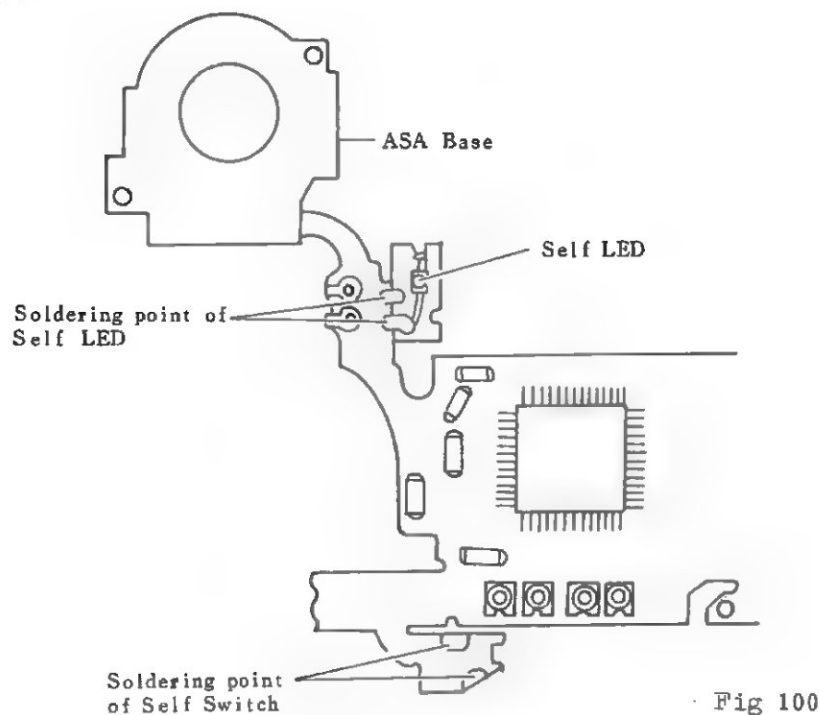

Fig 100
- (1) Bad soldering of Self Switch and FPC. See (Fig100)
- (2) Defective of Self Switch.
- (3) Soldering short circuit of Self LED. See (Fig100)
- (4) Bad soldering of IC terminal #35.
- (5) Defective of IC.